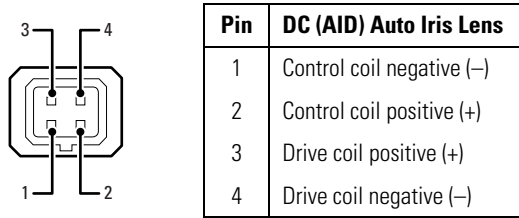

Figure 4. Lens Pin Connections
- c. Connect the auto iris lens to the 4-pin connector located on the side of the camera. Refer to Figure 4 for the pin connections for the auto iris lens connector